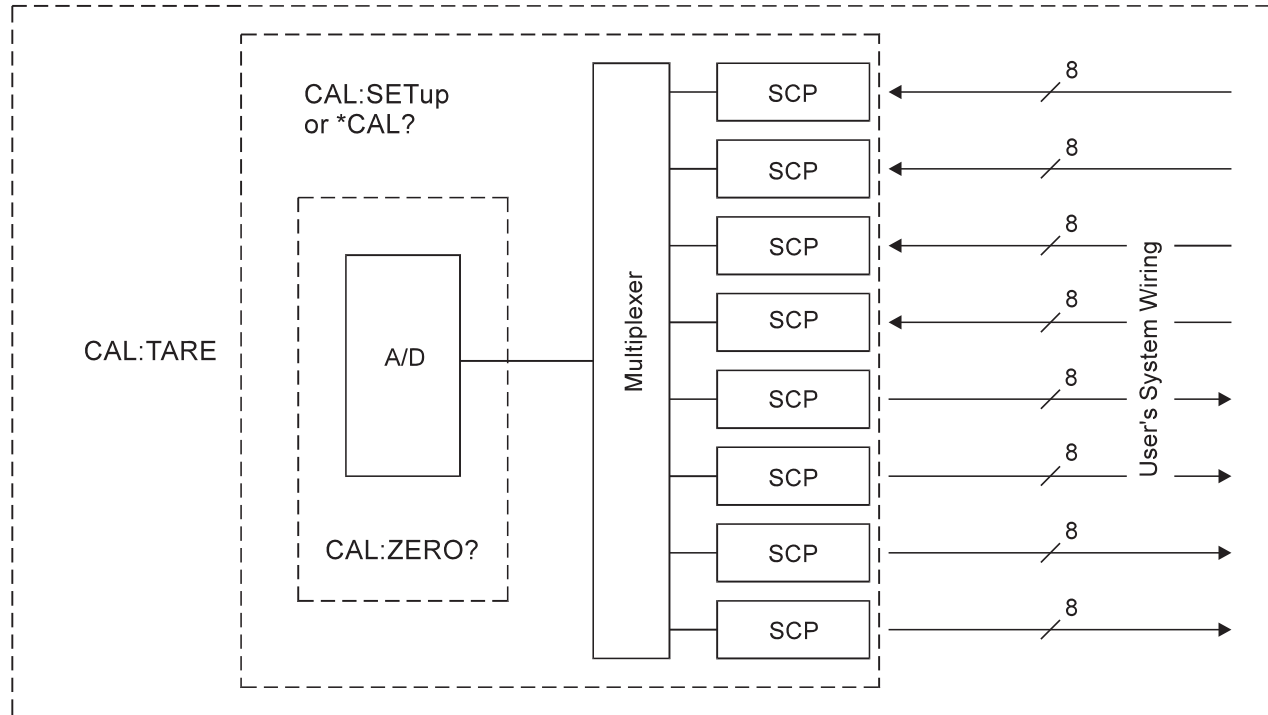

Figure 6-3: Levels of Working Calibration
2. “Working Calibration”: The three levels are described below (see Figure 6-3):